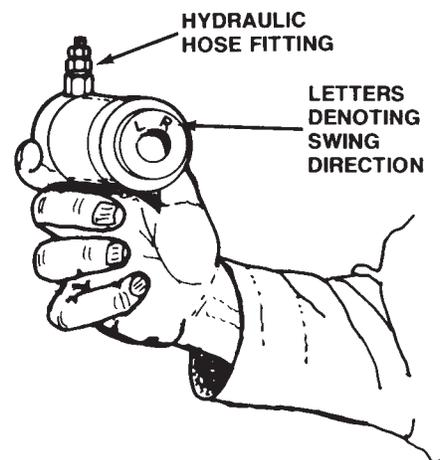

FIGURE 4
5. View the cylinder from the bottom, and align the letter (marking the direction of swing) with the hydraulic hose fitting. See Figure 4.